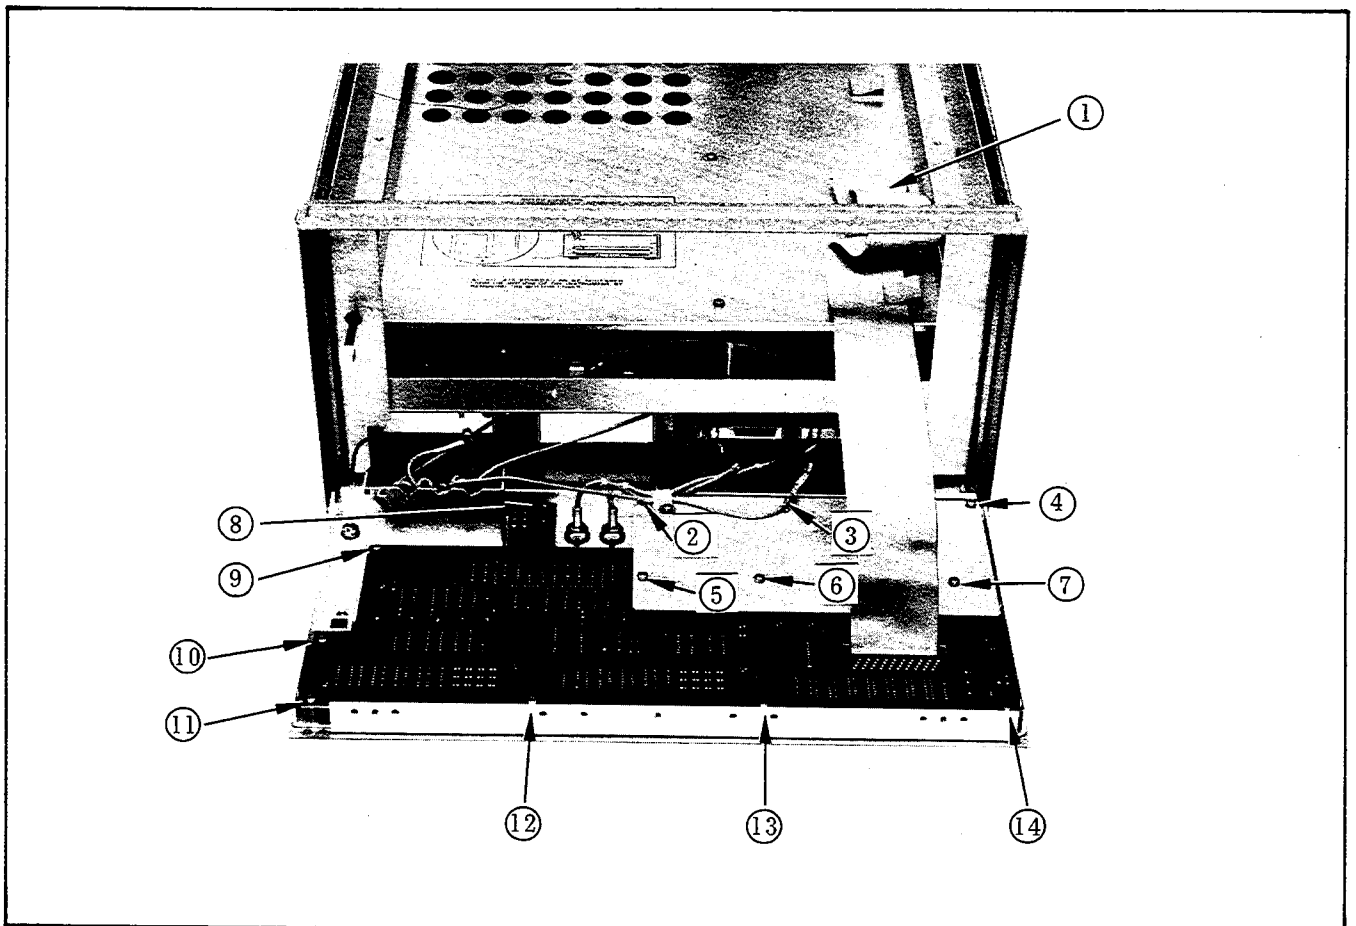

Figure 8-39. A5 Display and Keyboard Control Board Disassembly.
13. Disconnect the flat cable (1) between the A6 and A5 boards from A6J7. See Figure 8-39.
17. Lay down the front panel assembly as shown in Figure 8-39.
18. Remove the six screws ((2) ~ (7)) securing the shield plate to the A5 board (the cable clamp screw need not be removed).
19. Remove the seven screws ((8) ~ (14)) securing the A5 board to the front panel assembly.